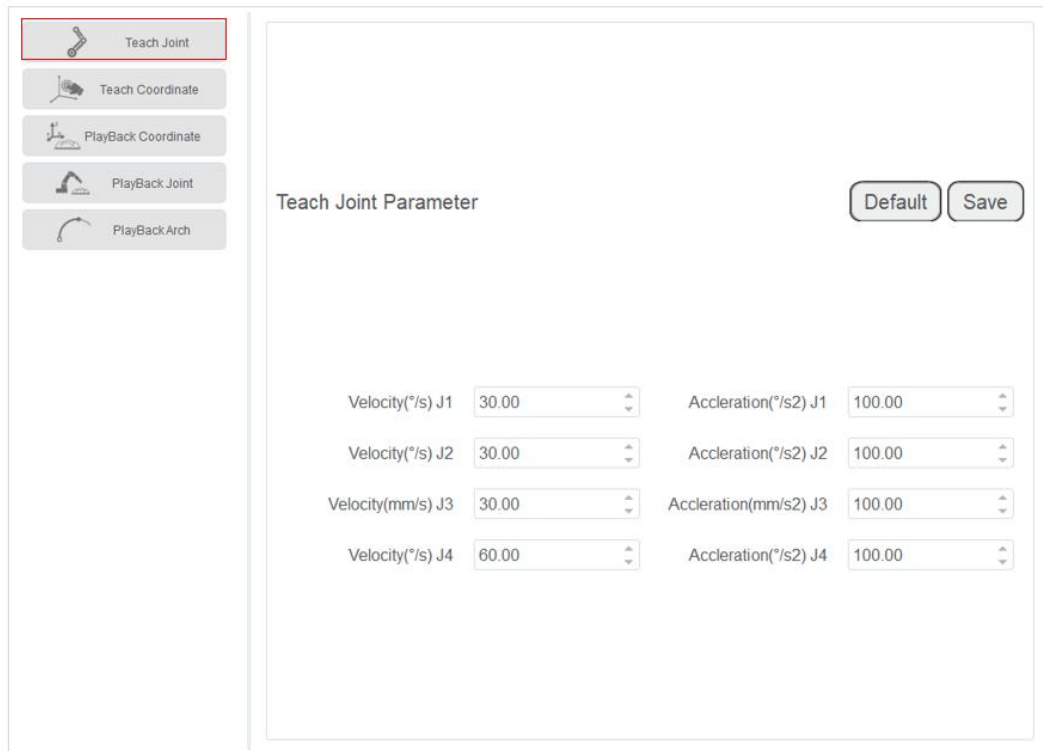

Figure 3.38 Jogging parameters in the Joint coordinate system
- Teach Joint Parameter: Set the maximum velocity and acceleration in the Joint coordinate system when jogging a robot. The jogging parameters of a robot in the Joint coordinate system are as shown in Figure 3.38.